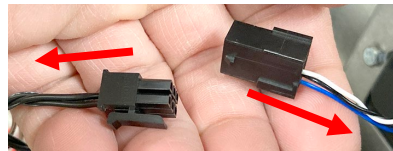

Figure 6
- Remove the four (4) Phillips screws on the top of the cabinet and remove the cabinet top.
- Disconnect the CAN communication cables (3-wire, 6-pin connectors) on both ends between the front and rear touch screen controllers, with the black, blue and white wires (see Figure 6).